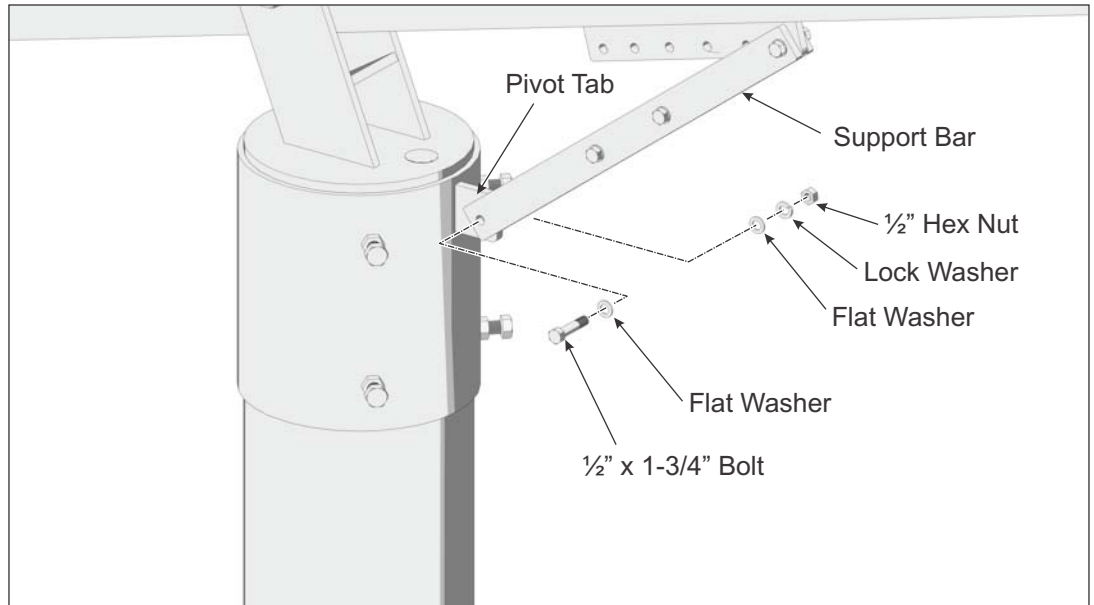

Figure 2-3: Securing Support Bar to Mounting Sleeve
- F. Pivot the Strongback and the Support Bar to align the mounting holes of the Support Bar with its Pivot Tab on the Mounting Sleeve. Slide the Support Bar over the Pivot Tab. Insert the 1/2" x 1-3/4" bolt and one flat washer thru the Support Bar and Mounting Tab and secure it with the remaining flat washer, lock washer and hex nut. **Torque hardware on both ends of Support Bar at 72-80 ft.-lbs.** (See Figure. 2-3)